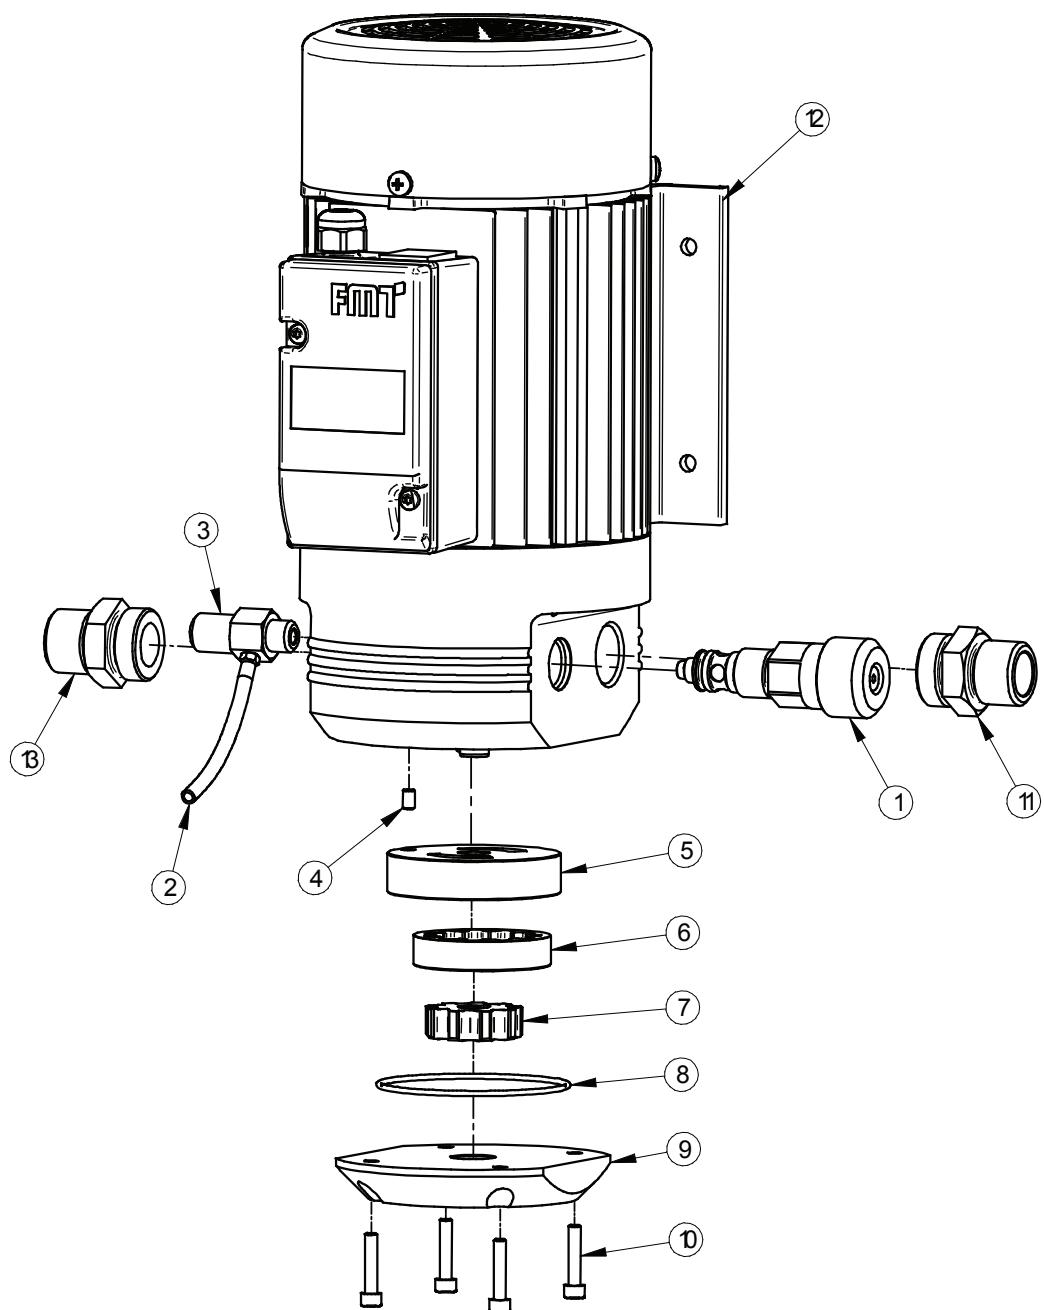

Fig. 12-1: Exploded View of the Oil Pump
- Run the venting hose (Fig. 12-1, Pos. 2) pipe into a suitable container.
- Using a screwdriver, slowly open the venting screw (Fig. 12-1, Pos. 3) between one, and a maximum of two turns.
- Use the knurled nut (Fig. 12-1, Pos. 1) to do this.